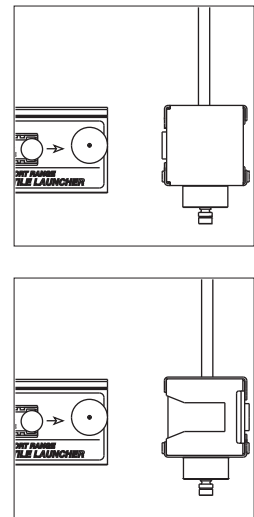

Figure 5: Pendulum aligned with launcher, bumper side (top) and catcher side (bottom)
5. Adjust the position of the RMS so the pendulum is aligned with the launcher as shown in Figure 5. Leave a 2.5 cm gap between the launcher and the pendulum.